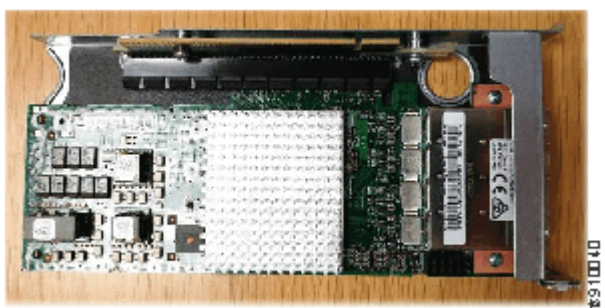

Figure 75. Alignment of the network adapter
10. Align the replacement adapter with the PCIe socket of the riser and press the adapter into place. Ensure that the adapter is fully seated in the riser, as shown in Figure 75 on page 125.